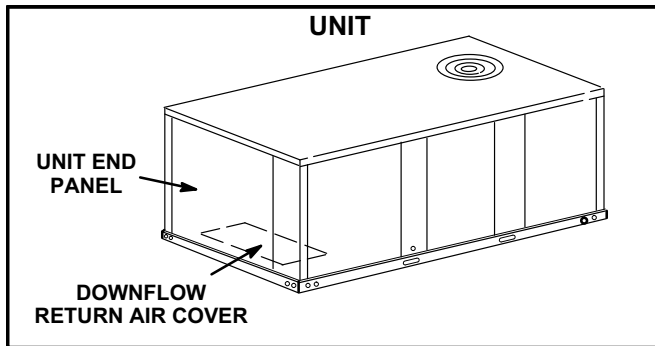

FIGURE 25
- 1- Remove unit end panel. See figure 25.
- 2- Install the downflow return air cover in horizontal airflow applications. See instructions provided with K1HECK and figure 25.